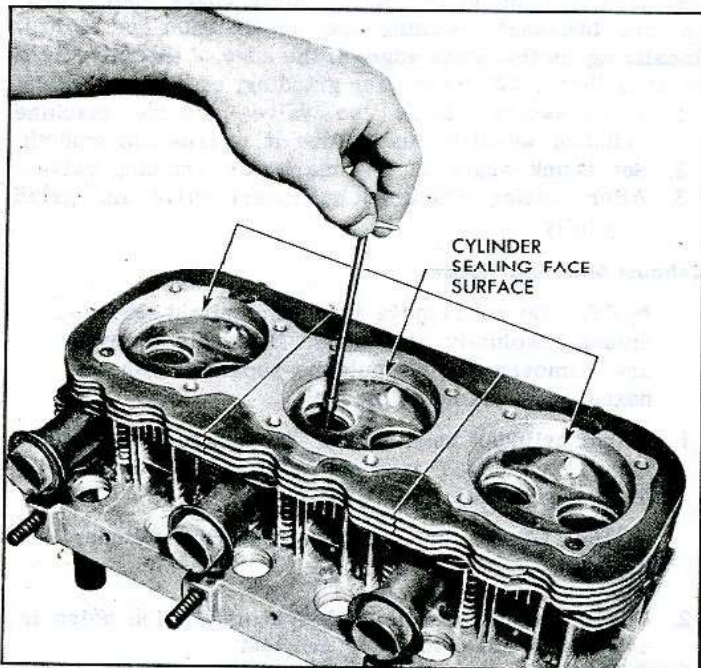

Fig. 81—Cleaning Valve Guides
2. Thoroughly clean valve guide bores, using Tool J-8101 (fig. 81).